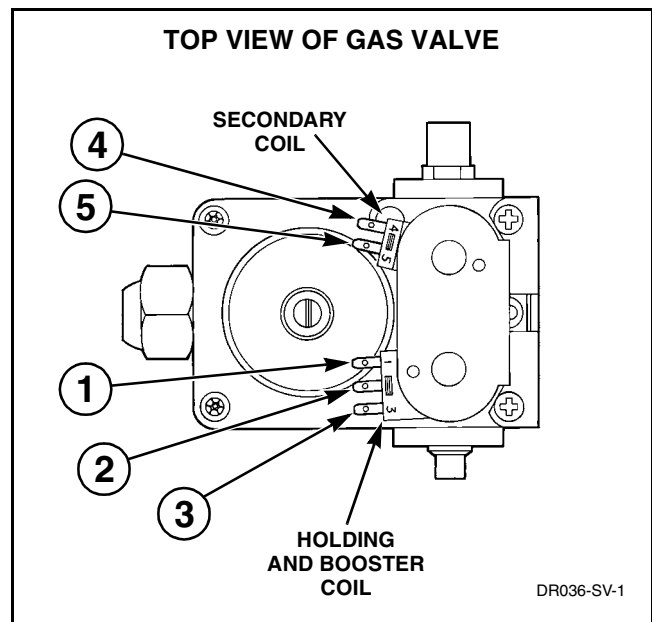

Figure 20
- a. Holding Coil (Refer to *Figure 20*)
- b. Booster Coil (Refer to *Figure 20*)
- c. Secondary Coil (Refer to *Figure 20*)